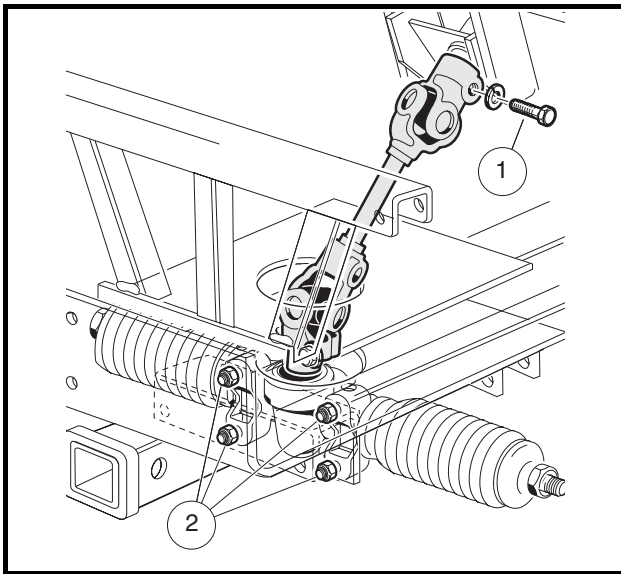

Figure 14-9 Compound Steering Joint
- 2.6. Remove the bolt (1) that connects the steering joint to the steering column shaft (**Figure 14-9, Page 14-13**). **See following NOTE.**
- 2.7. Remove the four bolts and lock nuts (2) from the rack and pinion assembly mount and gently disconnect the steering joint from steering column shaft at the bolt (1) location (**Figure 14-9, Page 14-13**). Gently allow both the rack and pinion assembly and the steering column shaft to drop down, remaining suspended between both rod ball joint ends.
- 6.6. Slip the splined steering joint over the splined steering column shaft, aligning with the mark made during disassembly. Attach the bolt (1) through the steering joint flange and loosely attach the nut (**Figure 14-9, Page 14-13**).
- 6.7. Attach the rack and pinion assembly to the shock tower plate using the four bolts (2) and lock nuts (**Figure 14-9, Page 14-13**). Tighten to 20 ft-lb (27 N·m).